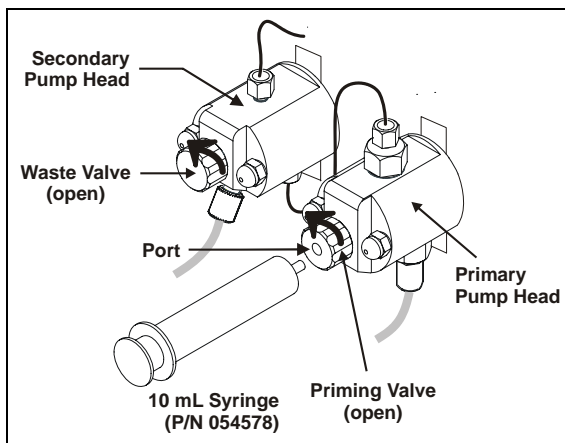

Figure 5-33. Priming the Pump Heads with IPA
1. Connect a 10-mL syringe (P/N 054578) filled with isopropyl alcohol (IPA) to the port in the primary pump head (see Figure 5-33).
2. Open the priming valve on the primary pump head (see Figure 5-33) by turning the knob one-quarter to one-half turn counterclockwise.